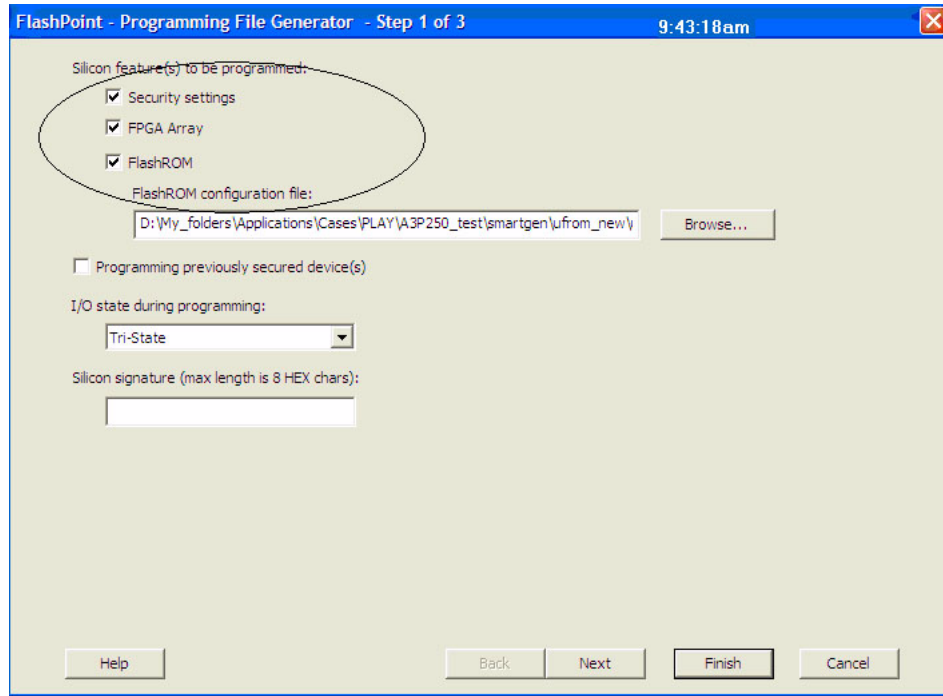
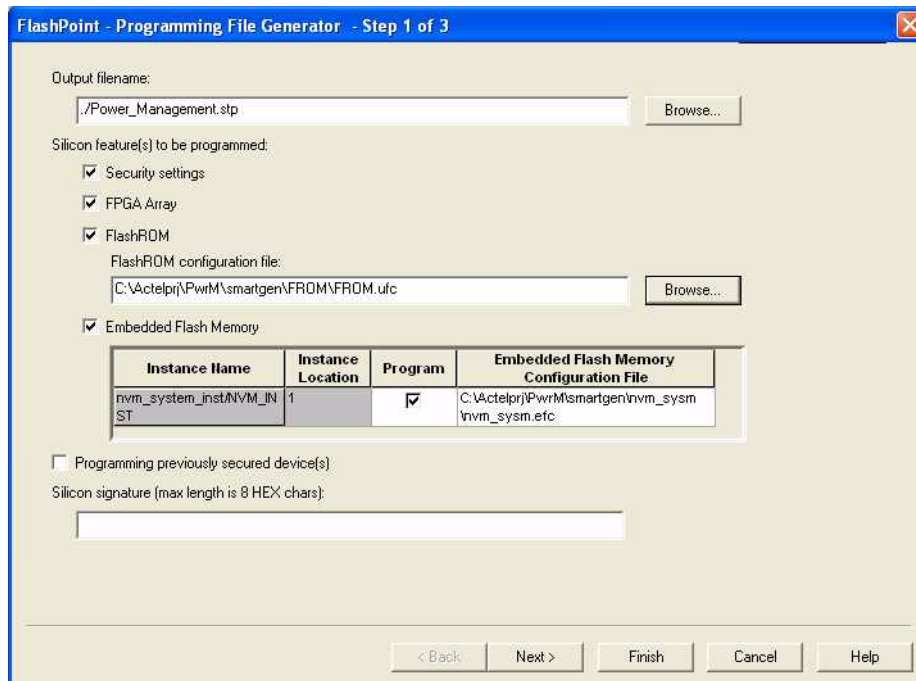
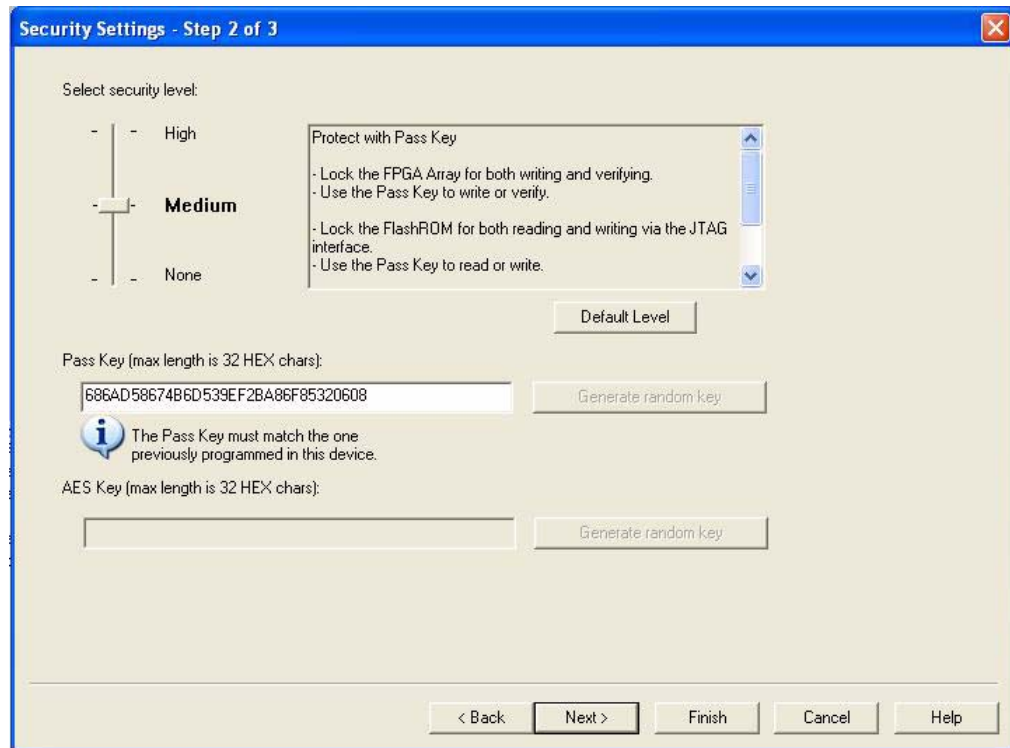

Figure 17-10 • All Silicon Features Selected for IGLOO and ProASIC3 Devices
Figure 17-11 • All Silicon Features Selected for Fusion
Figure 17-19 • FlashLock Pass Key, Previously Programmed Devices
1. Select the **Silicon features to be programmed** (Security Settings, FPGA Array, FlashROM, Flash Memory Blocks), as shown in Figure 17-10 on page 17-14 and Figure 17-11 on page 17-14. Click **Next**.
Figure 17-10 on page 17-14 and Figure 17-11 on page 17-14 show the option **Programming previously secured device(s)**, which the user should select before proceeding. Upon going to the next step, the user will be notified that the same FlashLock Pass Key needs to be entered, as shown in Figure 17-19 on page 17-22.
It is important to note that when the security settings need to be updated, the user also needs to select the **Security settings** check box in Step 1, as shown in Figure 17-10 on page 17-14 and Figure 17-11 on page 17-14, to modify the security settings. The user must consider the following: